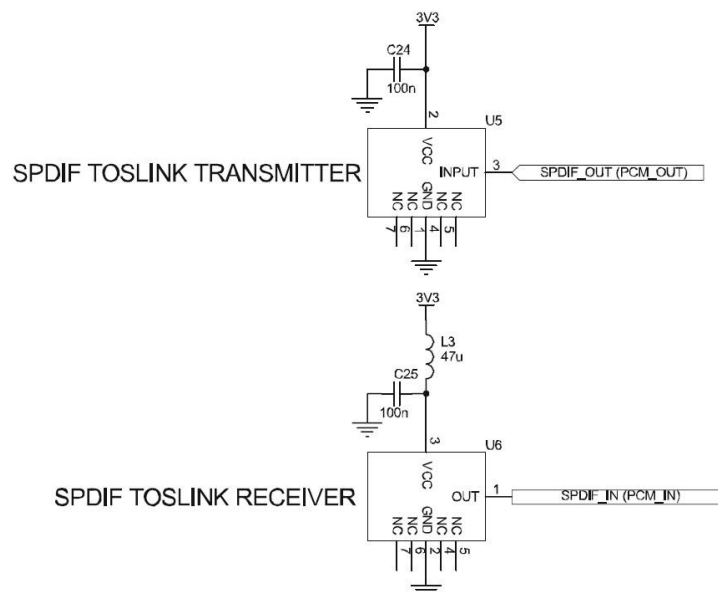

Figure 7. Example Circuit for SPDIF Interface (Optical)
- An optical link that uses Toslink optical components, see Figure 7.